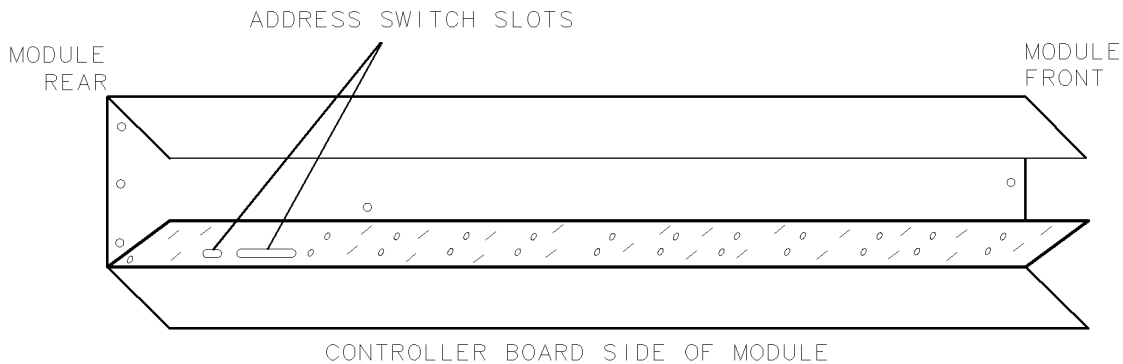

Figure 3. Module Cover Insulator Installation
1. Lay the local oscillator module cover on its right-hand side. (This is the side with the address-switch slots closest to the edge.) See Figure 3.